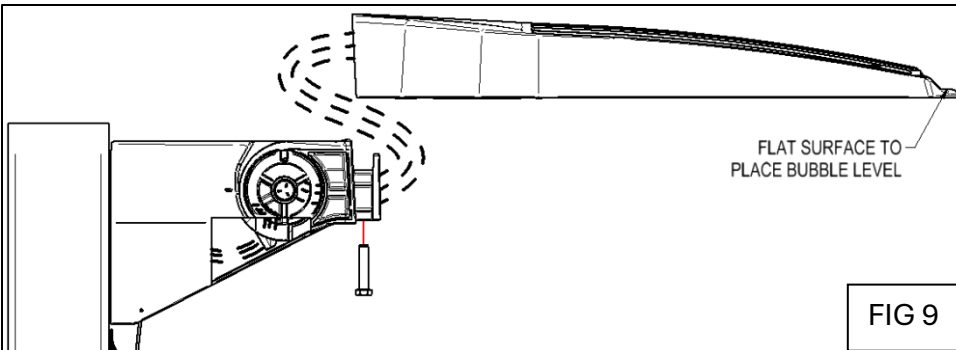

FIG 9
7. Route the wire from the fixture side through the wireway into the rotating Arm. (FIG 9)
8. While routing Luminaire supply wires thru the Arm wireway (similar to Universal Arm depicted in FIG 3), position Luminaire on the cleat on the Arm. Make sure the wires are not pinched. (FIG 9)
10. Install (2) 3/8-16 bolts provided to secure the Velocity Luminaire to the Arm (FIG 9). Tighten to 20 FT-LB.